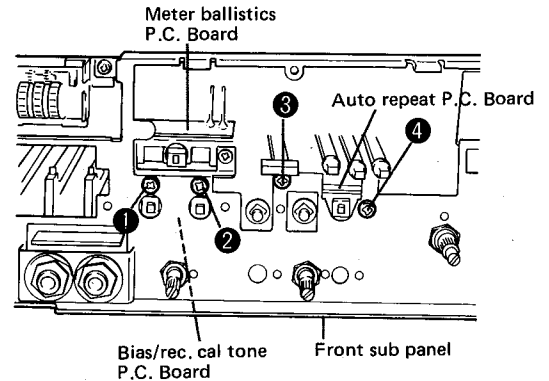

Fig. 5
2. The meter ballistics and bias/rec. cal. tone P.C. boards can be removed from the back of the panel as a unit by removing screws 1 and 2 (Fig. 5) on the front sub panel.
4. Remove the auto repeat P.C. board by removing screws 3 and 4 (Fig. 5) on the front sub panel.